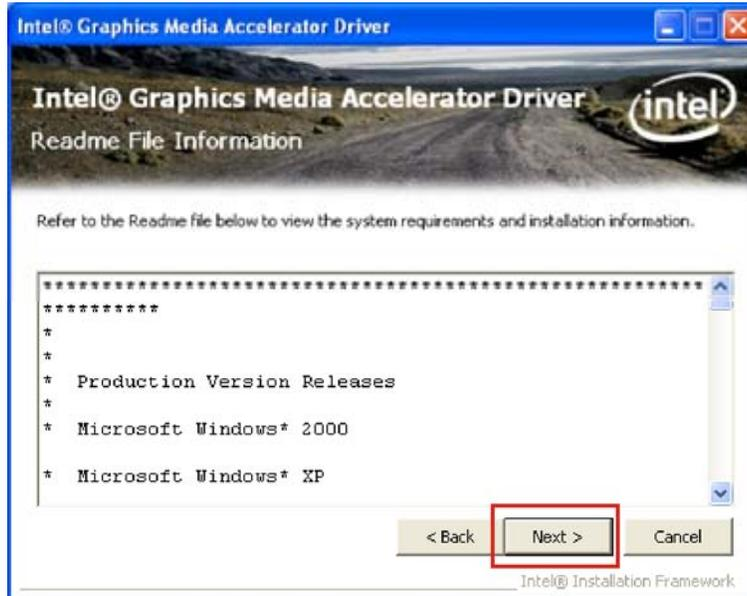

Figure 6-13: VGA Driver Read Me File
Step 30: The Readme file in Figure 6-13 appears.